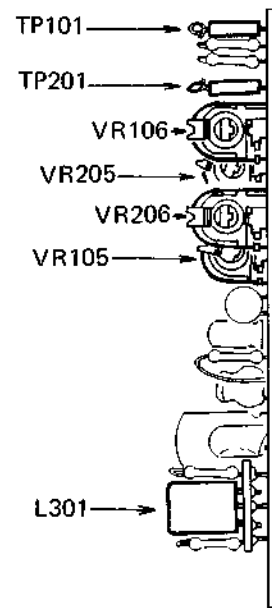

Fig. 15
4. Align the L301 so that the bias frequency will become 58kHz. (Refer to Fig. 15).
2. Connect the V.T.V.M. to the test point TP101 and adjust VR106 so that the bias voltage will become 520mV (Refer to Fig. 15).
3. Connect the V.T.V.M. to the test point TP201 and adjust VR206 so that the bias voltage will become 600mV (Refer to Fig. 15).
- b. Adjust VR105 so that the VU meter indicates 0VU. (Refer to Fig. 15).
- b. Adjust VR205 so that the VU meter indicates 0VU. (Refer to Fig. 15).